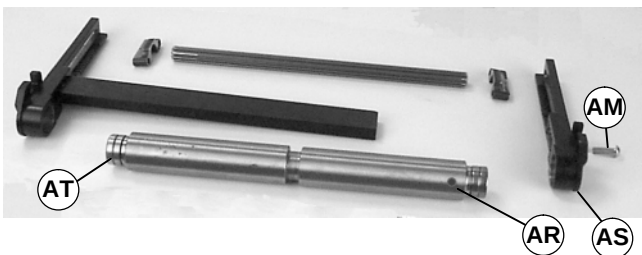

Figure 35
4. Locate magnet (AR of Figure 35). Remove screw (AM).
4. Remove tail assembly (AQ).
5. Locate magnet (AR of Figure 35). Remove screw (AM).
6. Remove headplate (AS).
7. Remove pulley (AT).